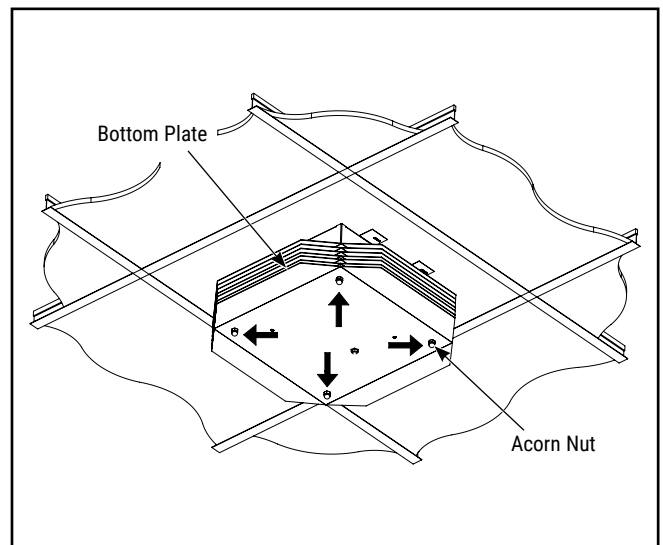

Figure 4.
1. Remove the four M8 Acorn Nuts from the bottom of the fixture. This will release the bottom plate. (See Figure 4)